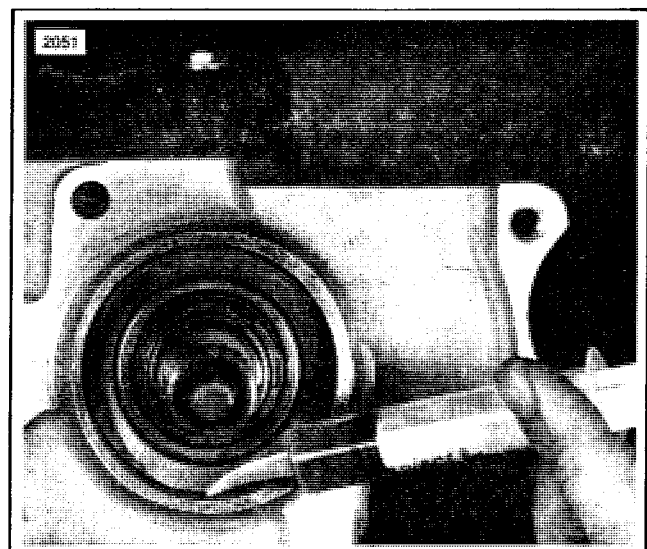

Figure 4. Epoxy Application
13. See Figure 4. Insert the syringe nozzle into the existing bottom oil hole. Slowly begin to inject the